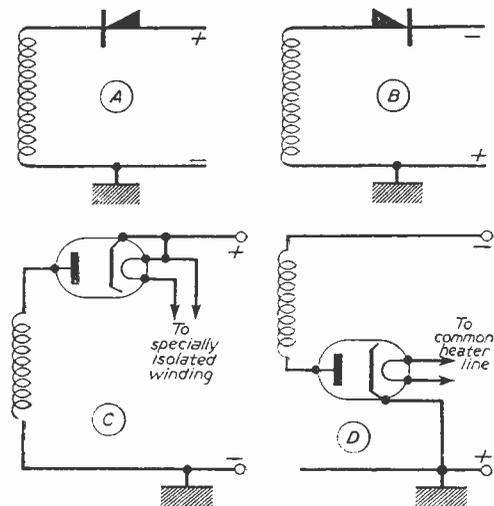

Fig. 1.—R.F. generators utilising metal and valve rectifiers.
Fig. 1 (A) and (B) involve no difficulty because the rectifiers can be connected either way round, but in (C) and (D) the valve heaters have to be taken into consideration. In (C) the heaters *must* be run from a separate, highly insulated supply, because the cathode heater insulation of the valve will not stand the 6 kV or so peak voltages which will occur. The circuit in (D), however, uses the cathode down to earth, and hence the heater supply may be obtained from the common line. To overcome the difficulty